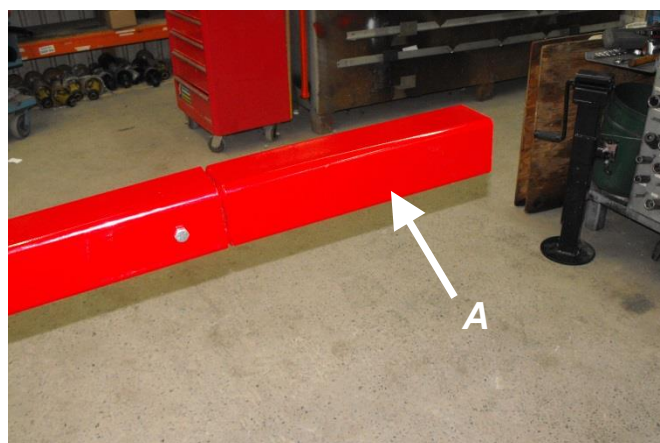
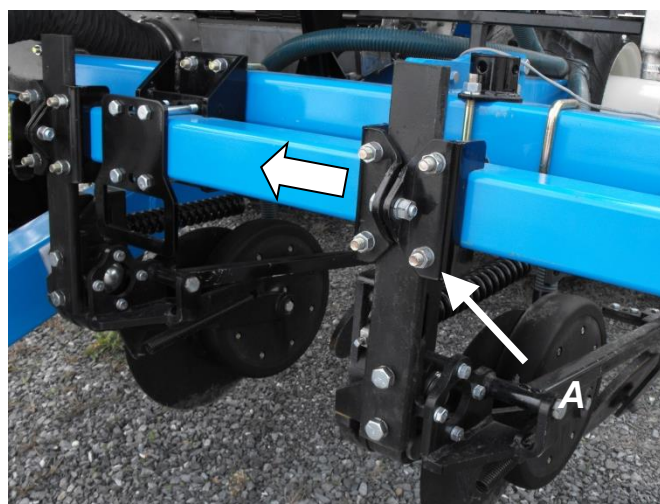

Figure 12P
Figure 12Q
3. Install the beam extensions on both end of the toolbar with the nuts and bolts given at the pickup of the applicator [figure 12P, **A**].
4. Move the fertiliser disks toward the center of the applicator. The disks must be moved so the fertiliser is incorporated in between corn rows. [Figure 12Q2]. To be able to move the disks, untighten the nuts that hold the fertiliser disk attach [figure 12Q, **A**] and move the disks toward the center of the applicator. The disks #6 or #7 must be moved to one end of the toolbar (on one of the side dressing extension) [figure 12P]. The 13th disk (that you received with the applicator) has to be installed on the other side dressing extension.